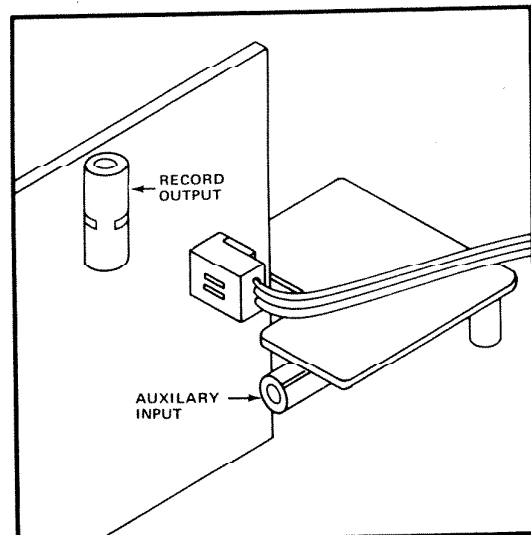

FIGURE 15
1. To connect an optional NuTone Record Changer (Model RC-91-2) or Stereo Cassette Player/Recorder (Model CP-R2) locate the **AUXILIARY INPUT** and **RECORD OUTPUT** jacks on the master panel. See Figure 15.
2. To play the phonograph or tape player over the intercom system, insert the accessory's output plug into the master panel's **AUXILIARY INPUT** jack. See Figure 15.
3. To use the radio as a program source for recording on the Cassette Recorder/Player, insert the tape player's input plug into the master panel's **RECORD OUTPUT** jack. See Figure 15.